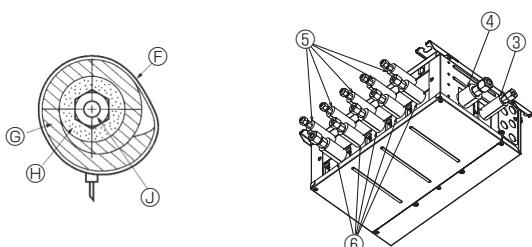
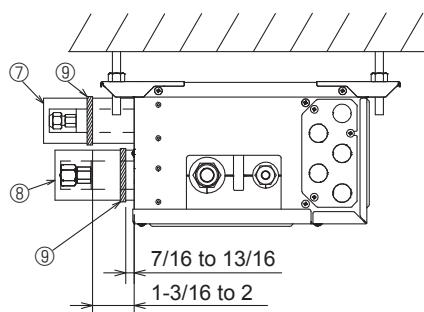

Fig. 7-4
Fig. 7-5
- Insulate the liquid and gas pipes of the branch box by attaching the heat-resistant polyethylene foam tightly around them. (Fig. 7-4) Otherwise, a burn during pipe connection work or water leakage due to condensation on pipes may result. If connected to wrong end connection numbers, it doesn't work normally.
- (5) Press the pipe covers (3) and (5) on the liquid piping against the unit and wrap to hold in place. (Fig. 7-4)
- (6) Press the pipe covers (4) and (6) on the gas piping against the unit and wrap to hold in place. (Fig. 7-4)
- (7) Apply the supplied bands (9) at a position 7/16-13/16 inch (10 - 20 mm) from each end of the pipe covers (3)(4)(5)(6).
- (8) If the indoor unit is not connected, fit the supplied pipe covers (with caps, 7 and 8) to the branch box refrigerant piping connections against the unit to prevent condensation dripping from the pipes. (Fig. 7-5)
- (9) Clamp the pipe covers (7)(8) in place with the supplied bands (9).
- ⑤ Band (3.1. Accessories No. 9)
- ⑥ Pipe covers (3.1. Accessories No. 3④⑤⑥)
- ⑧ Thermal insulation for refrigerant piping
- ⑩ Refrigerant piping
7.2. Handling of ports that are not connected to outdoor unit (Fig. 7-5)